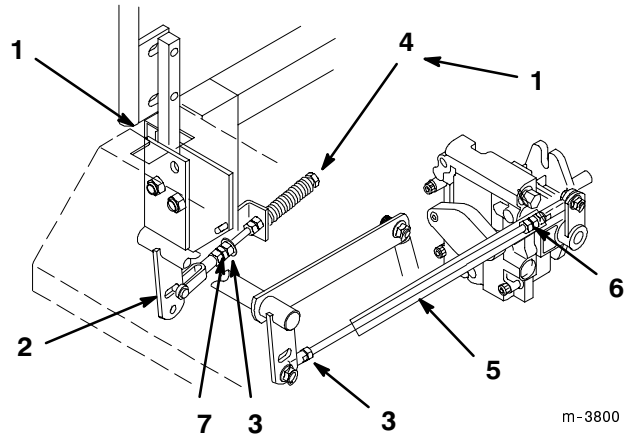

Figure 37
2. Begin with either the left or right motion control lever. Move lever to the neutral (but not locked) position and pull lever back until the clevis pin (on arm below pivot shaft) contacts the end of the slot (just beginning to put pressure on spring) (Fig. 37).
3. Check where lever is relative to notch in console (should be centered allowing lever to pivot outward to the neutral lock position) (Fig. 37).
5. Loosen locknut at ball joint on pump control rod (Fig. 37).
6. Adjust pump rod length by rotating double nuts on rod, in the appropriate direction, until wheel is still or slightly creeps in reverse (Fig. 37).